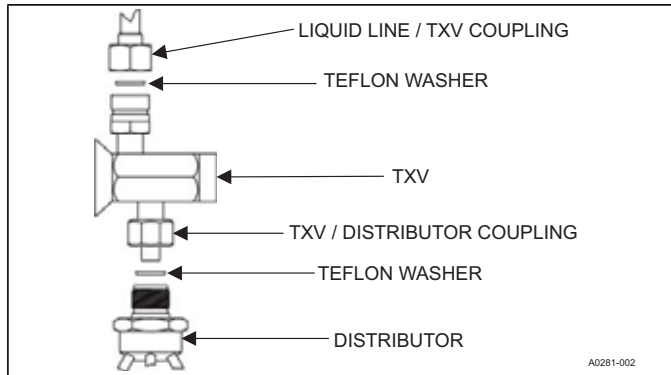

FIGURE 24: TXV Installation
4. Install the thermal expansion valve to the distributor assembly with supplied fittings. Ensure Teflon washer is seated in distributor. Hand tighten and turn an additional 1/4 turn to seal. Do not over-tighten fittings. See Figure 24.
5. Slide the nut removed in step 3 over the supplied liquid line. Place supplied Teflon washer from TXV kit in place on TXV, and install liquid line to the top of the thermal expansion valve. Adjust assembly so liquid line aligns with hole in access panel. See Figure 24. Hand tighten the liquid line, and apply an additional 1/4 turn to seal.